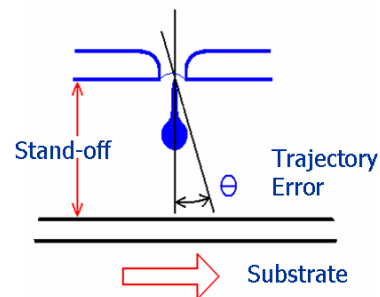

Figure 1: Jet trajectory errors
- Drop straightness or trajectory errors from a printhead (figure 1). These types of errors are angular and the associated positional errors increase as the distance between the printhead and substrate increase. Single isolated jet straightness issues in a scanning system architecture are not considered problematic when interlacing and screening methods are used. However, repeating drop placement errors between heads can be difficult to overcome. These errors can lead to streaks in an image and can be one of the contributing factors behind common banding problems found in scanning UV systems.